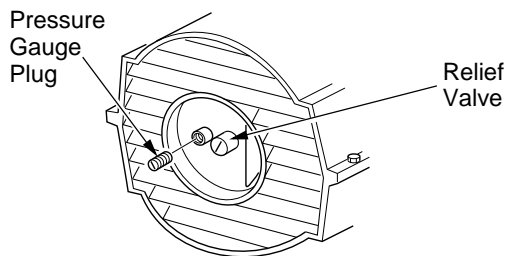

Figure 13 - Pressure Gauge Plug Removal (40/55/60/70 Models Shown)
1. Remove pressure gauge plug from filter end cover (see Figure 13).